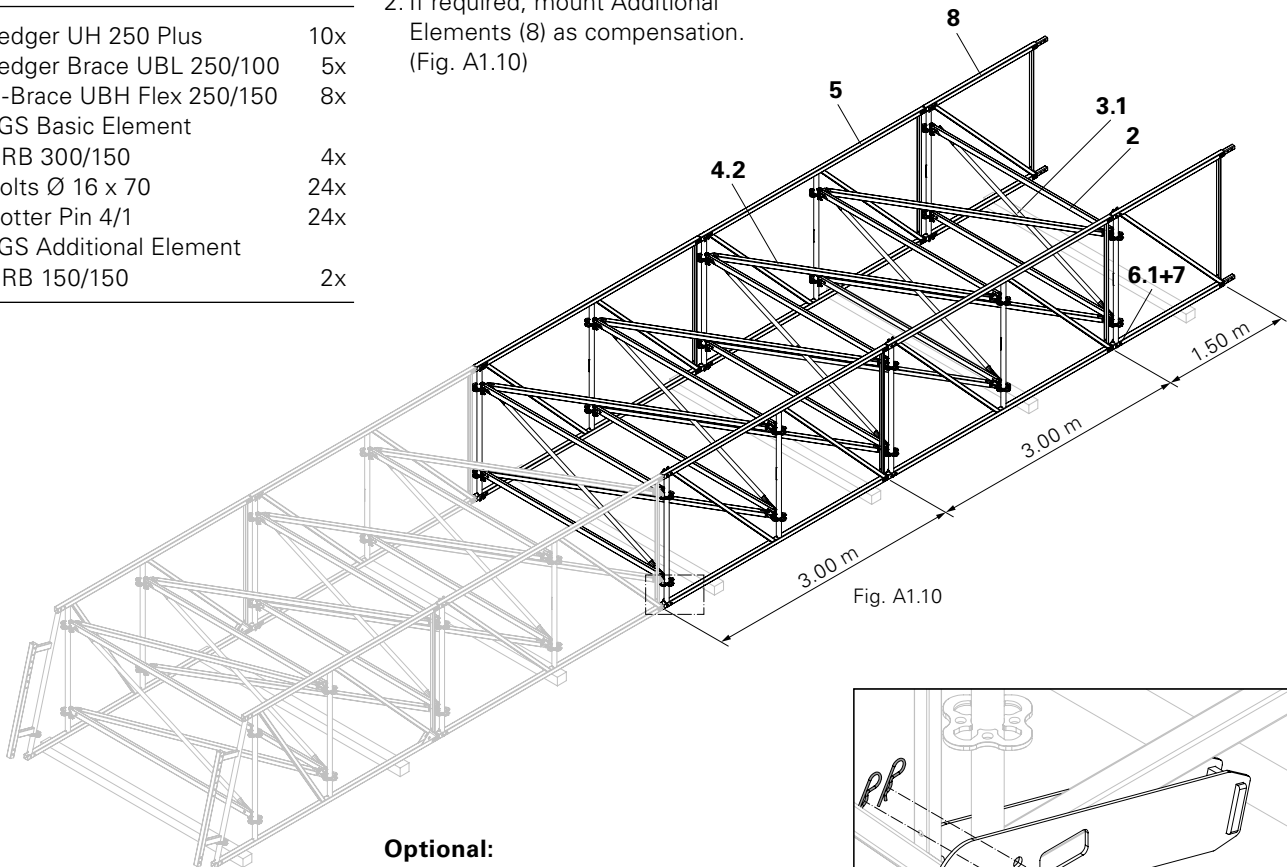

Fig. A1.10
1. Mount additional Basic Elements (5) – until the required length has been reached, see Section A1.2.
2. If required, mount Additional Elements (8) as compensation. (Fig. A1.10)